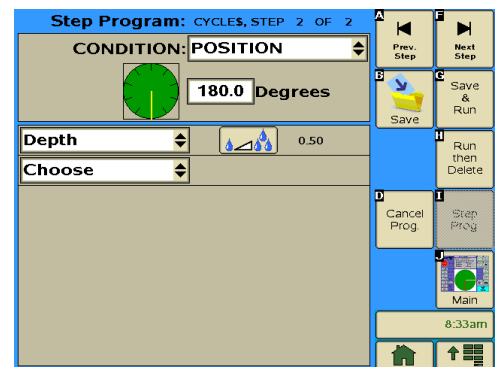

Figure 177-3
7. Program the position condition for this step. Refer to Figure 177-3.